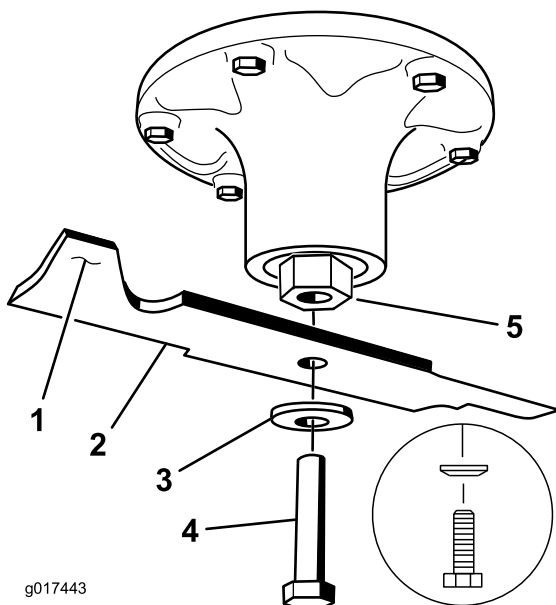

Figure 114
2. Remove the blade bolt, curved washer, and blade from the spindle shaft (Figure 114).
1. Install the blade onto the spindle shaft (Figure 114).
2. Install the curved washer and blade bolt (Figure 114).